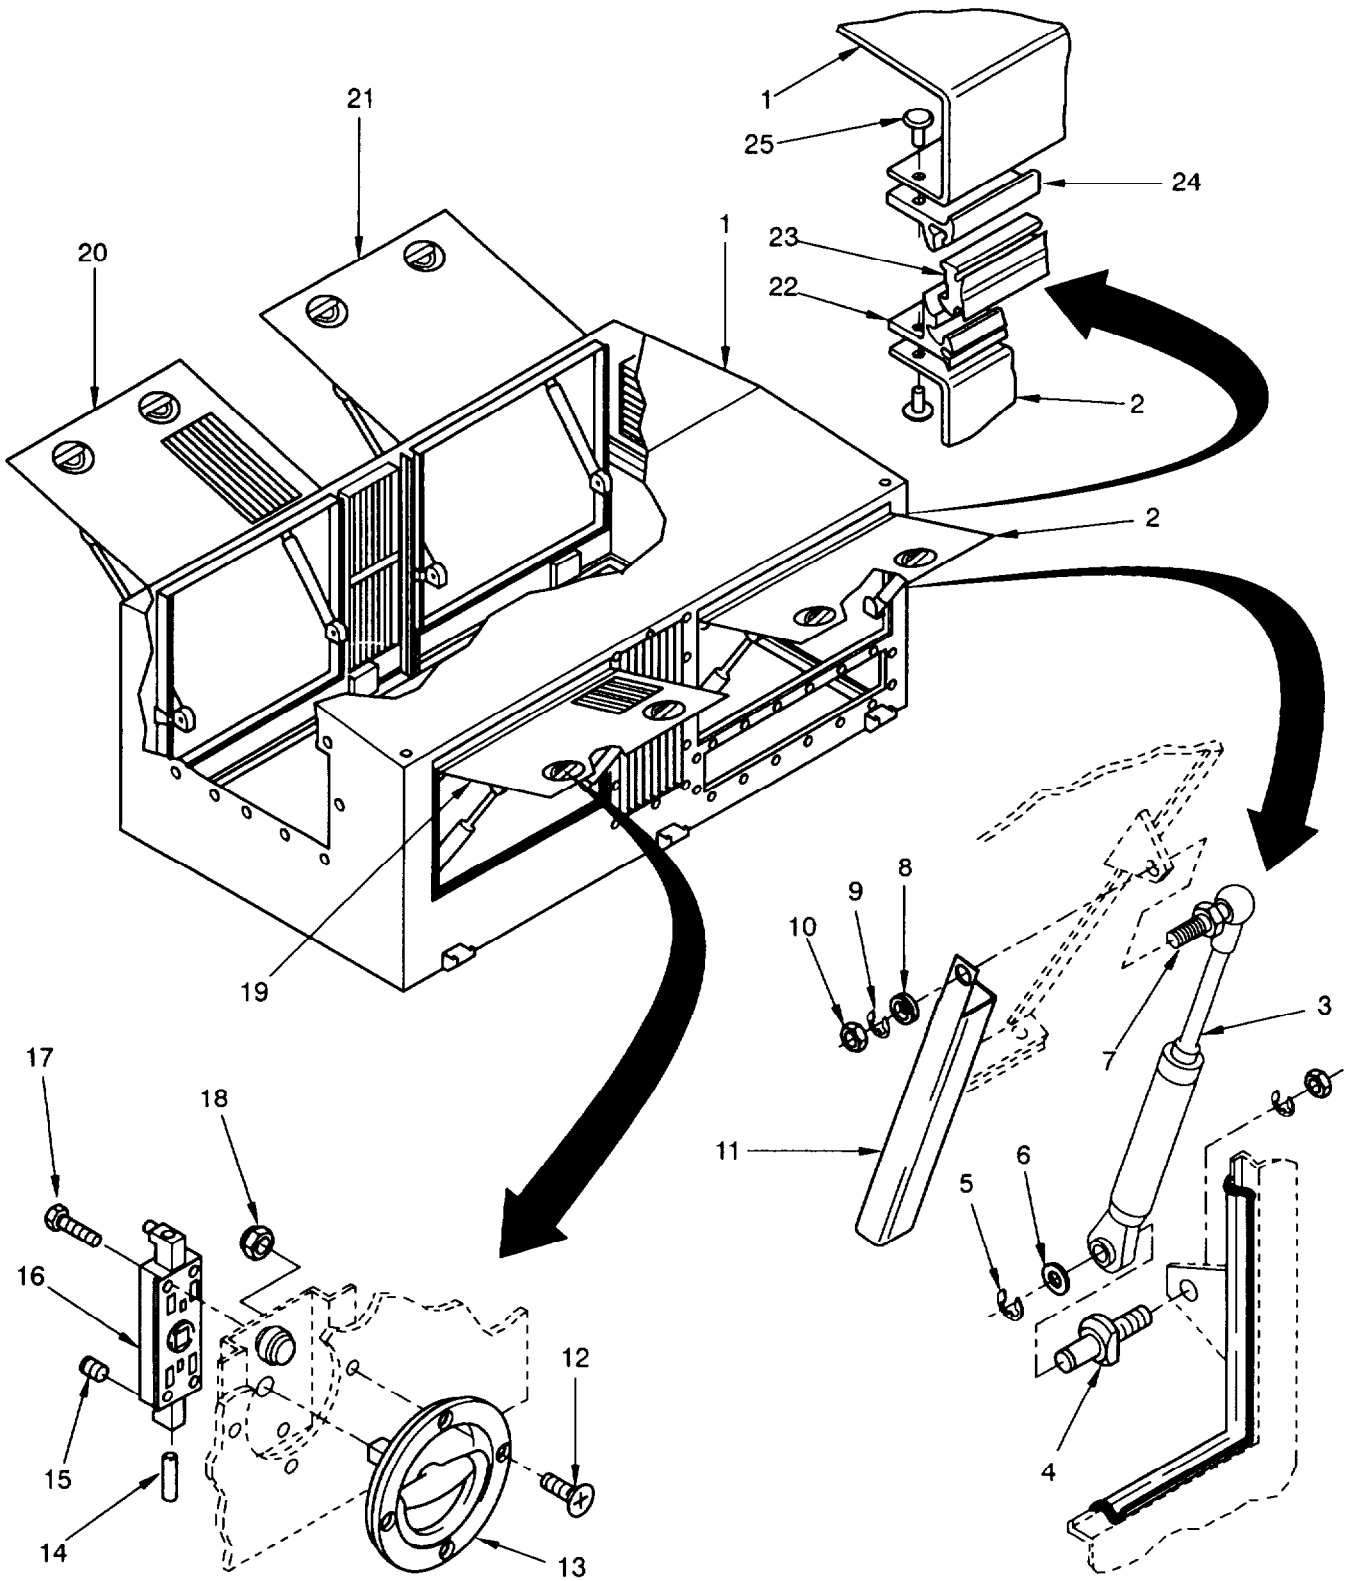

Figure 4-28 Unit Hood Flap Maintenance.
1. Open flap (2, figure 4-28) and prop open.
3. Drill out blind rivets (25) and remove flap (2) with hinge (22), rubber sealing strip (23), and hinge profile (24) from unit hood assembly (1).